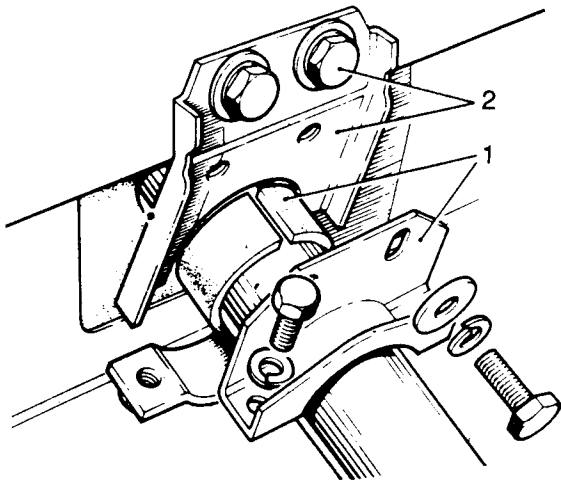

Fig L4.13
- (5) Refer to Fig L4.13. Refit the upper clamp bracket and support bracket (2) to the bulkhead.
- (6) Fit the rubber sleeve and lower clamp bracket (1) to the outer column.
- (7) Insert slotted packing pieces as required to take up clearance between the support bracket, stiffener bracket and toe box.
- (8) Secure the support bracket and stiffener bracket fixings. Torque load for support bracket to chassis fixings is 20 N.m.
- (9) Lower the front of the vehicle to the ground.